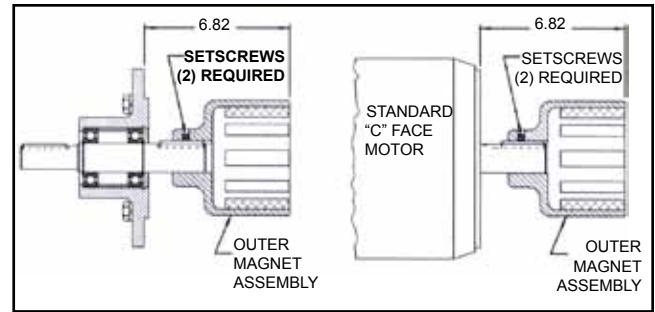
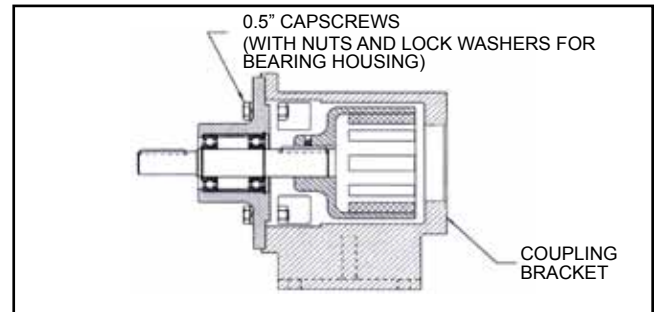

FIGURE 32
FIGURE 33
1. Inspect the magnets for any steel objects, which may be attached. Remove any foreign material. Locate the outer magnet assembly per dimension **See Figure 32**. Apply Loctite and tighten the setscrews onto motor or bearing carrier key and shaft.
2. If the bracket is not fastened to a base, clamp it down **See Figure 33**. Mount the motor or bearing carrier to the bracket and secure with (4) 0.5" capscrews. Reach in and rotate the magnets by hand to make sure there is no interference. If rubbing occurs check the dimension in **Figure 32** or contact the factory.